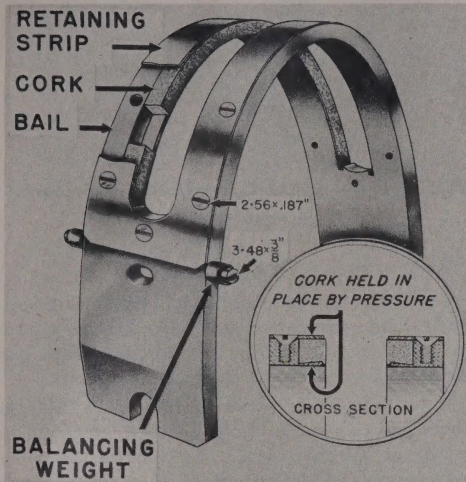

Figure 188 — Bail Assembly
(7) ERECTING BAILS. (See figure 188.)